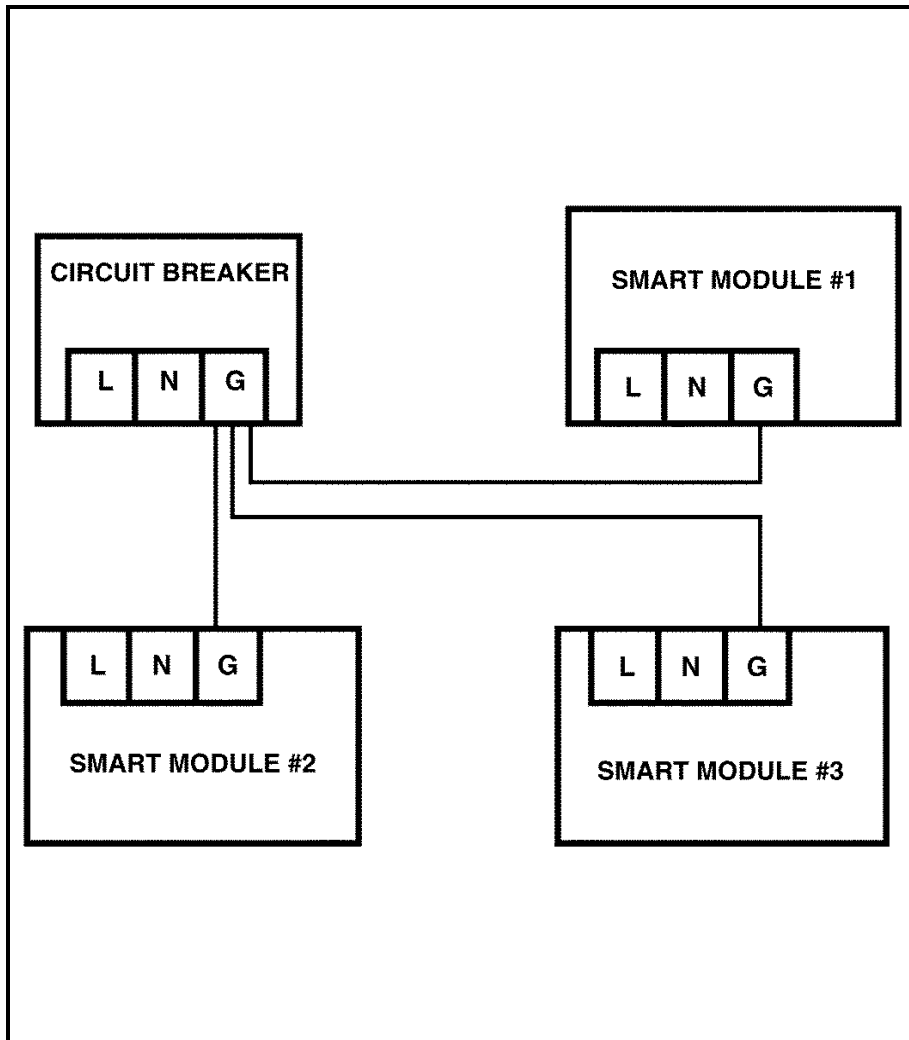

Figure 31 - Smart Module Single-Ground Wiring
3. Determine grounding method: There are two versions of Smart Module: one has a single ground terminal, the other has a second ground terminal for the I.S. barrier. These grounding methods are illustrated in Figures 31 and 32 on the next page.
- For the *single ground* version (Figure 31), connect the ground terminal from each Smart Module directly to the ground bar in the circuit breaker. *Do not daisy chain the ground wires*